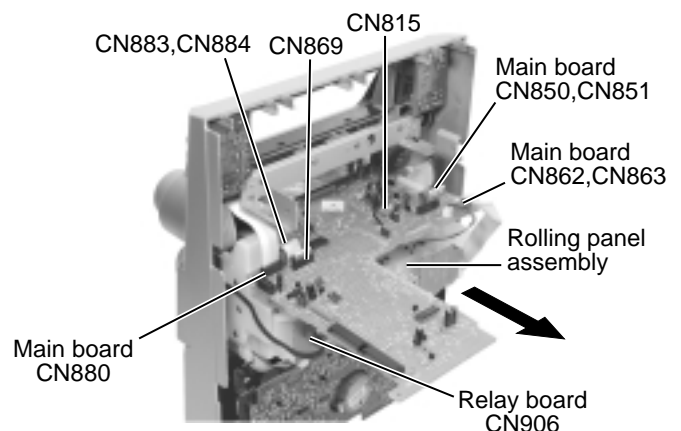

Fig.13
**ATTENTION:** For the harness which should be connected to connector CN869, CN883 and CN884 on the main board, get them through the slots under the rolling panel when reattaching the rolling panel assembly to the front panel (Refer to Fig.13)